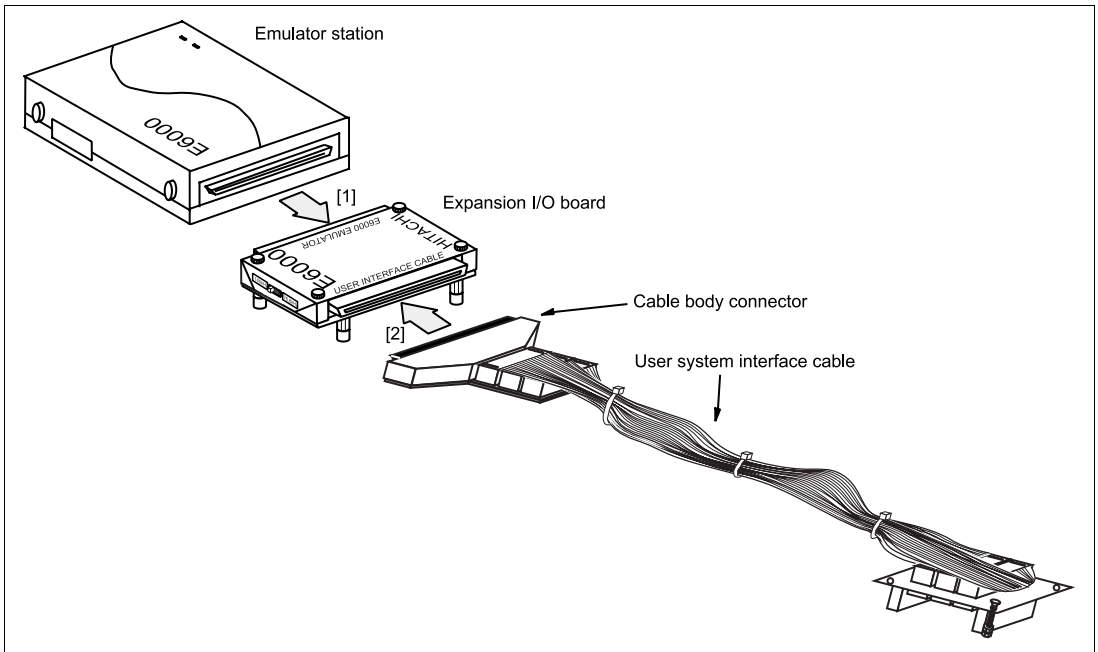

Figure 2.1 Connecting Expansion I/O Board to Emulator Station and User System Interface Cable
2. [1] After making sure the direction of the expansion I/O board connector labeled E6000 EMULATOR is correct, firmly insert the expansion I/O board connector into the emulator station connector labeled USER INTERFACE ([1] in figure 2.1).